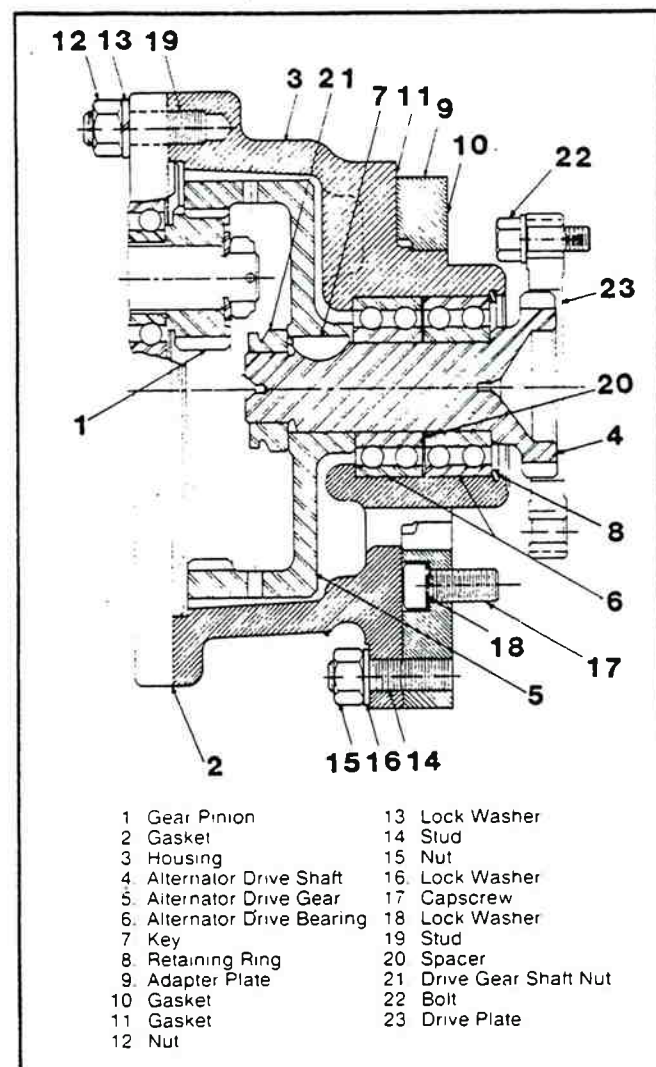

Figure 7-19. Gear-Driven Alternator Drive Adapter (Cross Section).
7. Thoroughly clean all parts before reassembly. See figure 7-19.